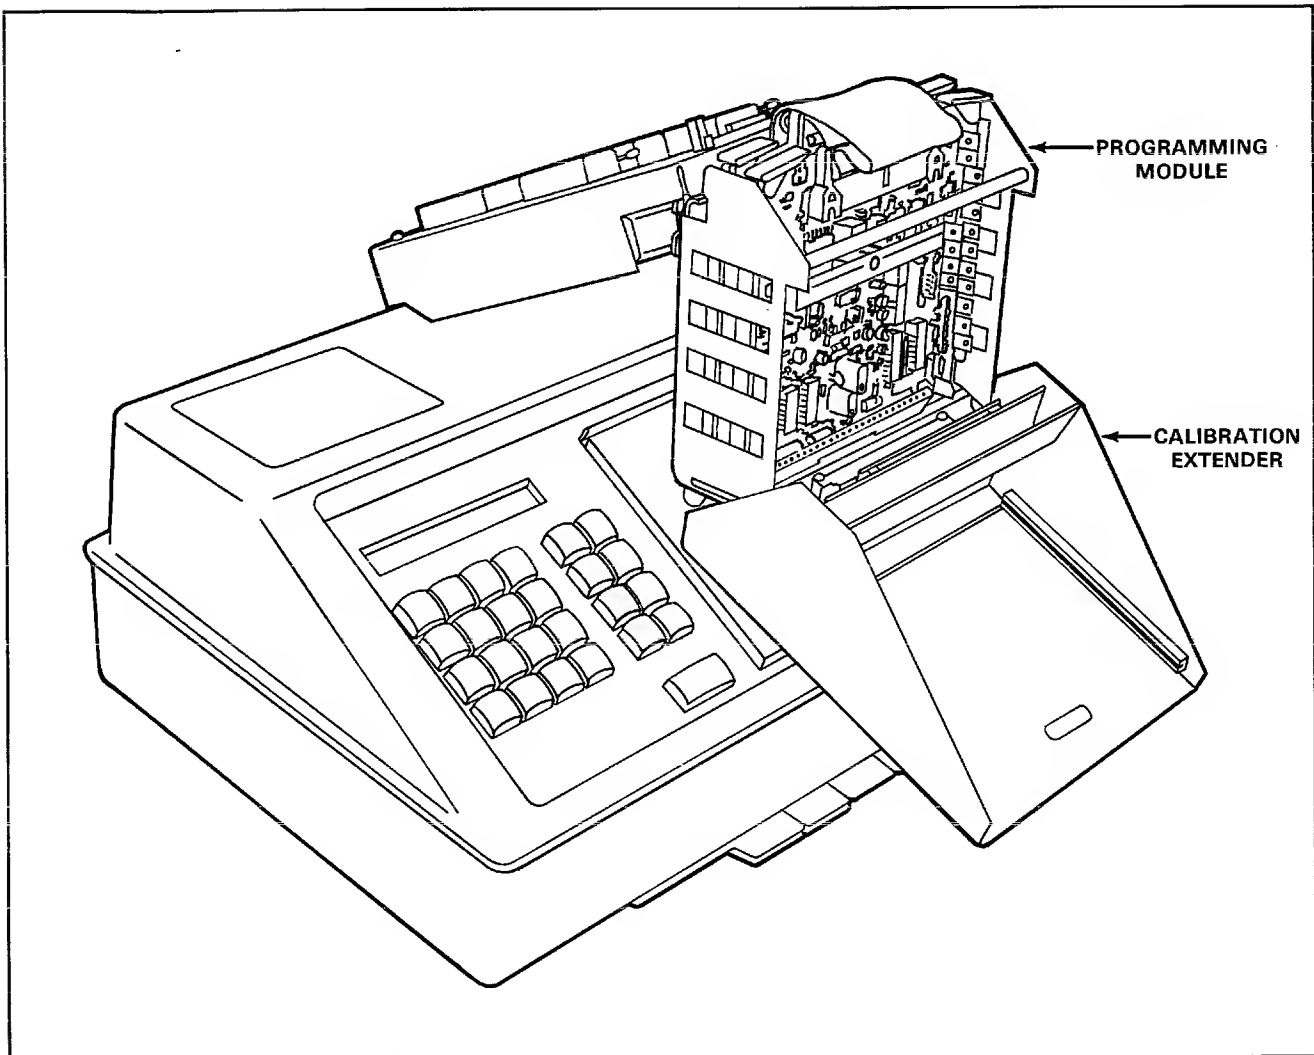

Figure 4-4. 29B with Programming Module Prepared for Calibration
2. Insert the appropriate calibration equipment into the 29B. As an example, figure 4-4 shows the 29B set-up for calibration with a calibration extender and a Pak installed.